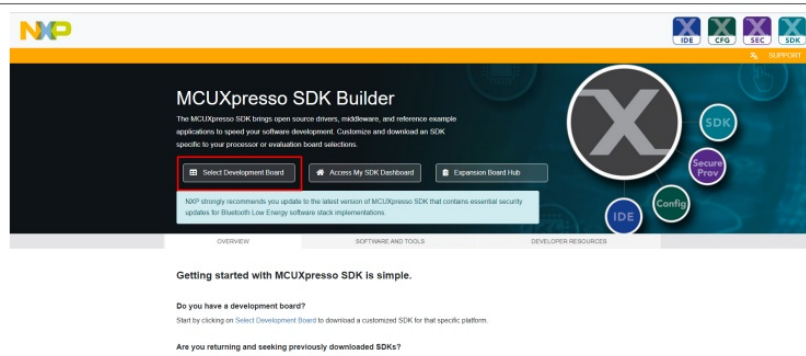

Figure 20. SDK Builder welcome screen
1. Launch the MCUXpresso SDK. The MCUXpresso SDK Builder welcome screen appears when the application is launched, as shown in Figure 20.